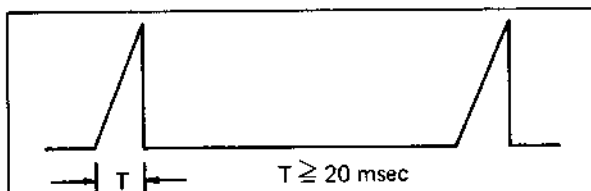

Fig. 5-13 Tape start monostable
- Connect oscilloscope to IC10 pin 16 of the SERVO board and confirm monostable width of more than 20 msec. If less, again adjust R106 to obtain more than 20 msec. (See Fig. 5-13.)